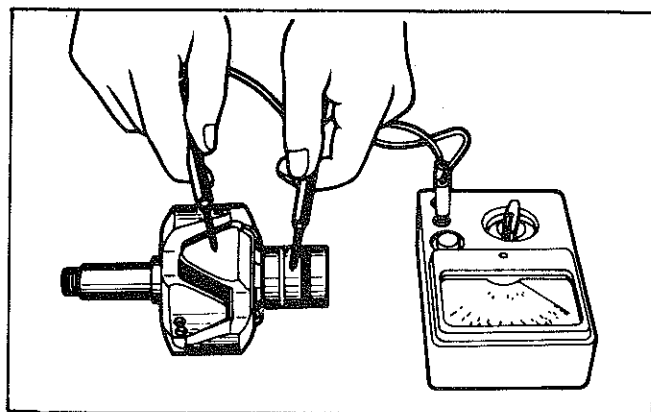

Fig. 16—Checking rotor for grounds
(3) Test the excitor windings of the rotor for a short circuit to ground using a low voltage test lamp or an ohmmeter as shown in Fig. 16. Connect one test lamp or ohmmeter lead to the slip ring and the other lead to a pole piece. If the lamp lights or the ohmmeter reading is low, the field windings are grounded.